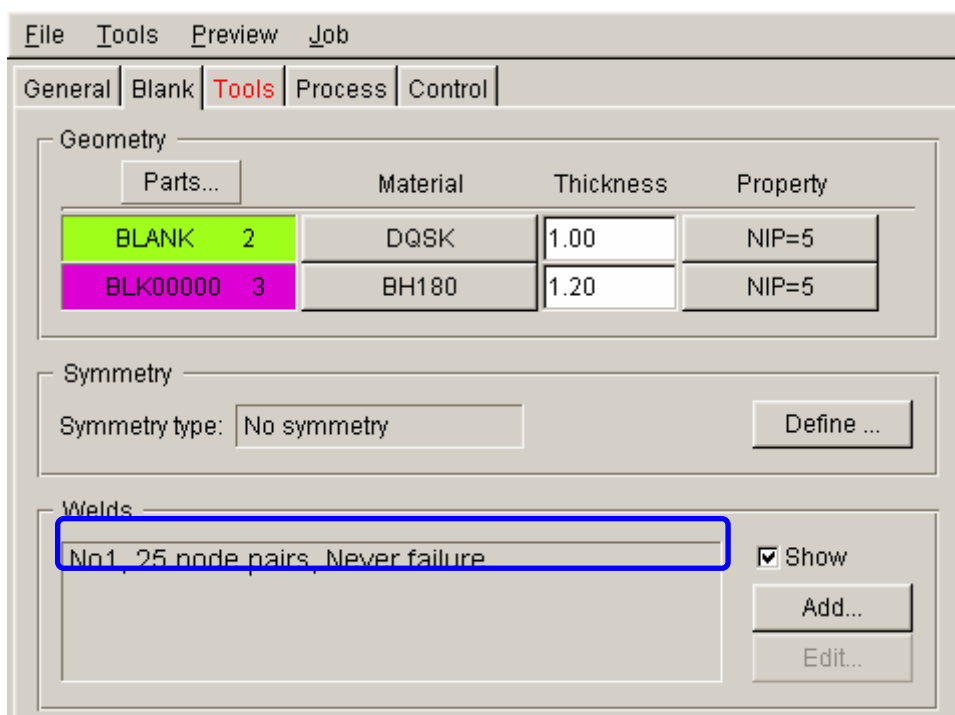

Figure 5.41 Welds definition interface
- Click **OK** button in **BLANK WELD** dialog box to return to **AUTOSETUP** interface. You can observe the weld information is listed in the Welds field, as illustrated in Figure 5.41.